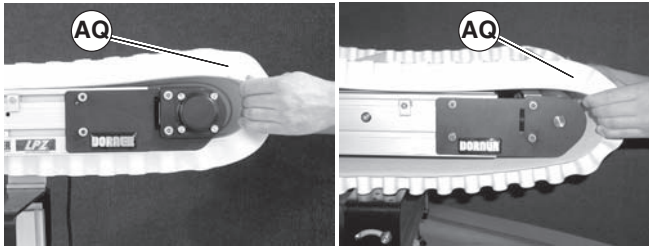

Figure 20
- Remove belt (Figure 20, item AQ) from conveyor.